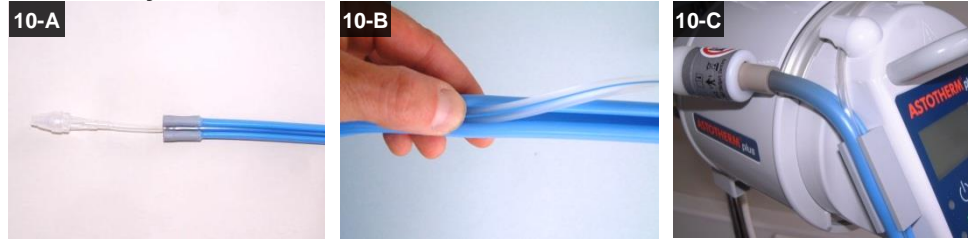

Fig. 10: The use of ASTOLINE
5. Starting from the patient side, place the end of the infusion extension with 3 to 5 cm overlap into ASTOLINE (fig. 10-A) and insert it with the thumb into the groove of ASTOLINE (fig. 10-B).
6. Clip ASTOLINE together with the inserted infusion extension into the bracket (fig. 10-C).